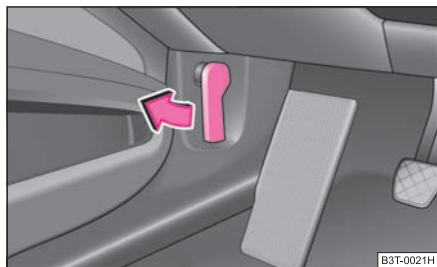

Fig. 185 Bonnet release lever
- Pull the unlocking lever below the dash panel on the driver's side ⇒ fig. 185.
- Unlock the bonnet ⇒ fig. 185.